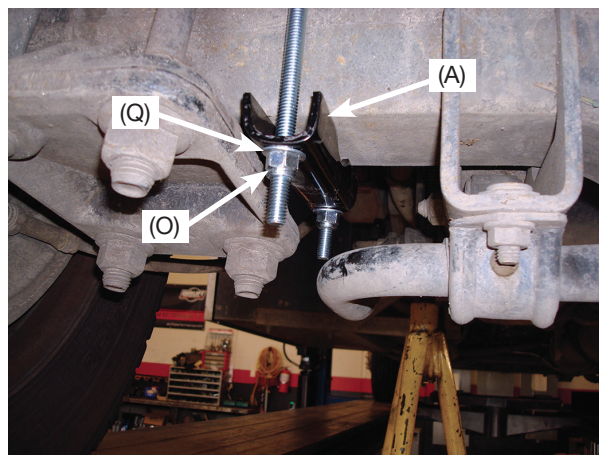

fig. 16
6. Insert the lower clamp bar (A) over the carriage bolts under the axle and cap with flat washers (Q) and nylon lock nuts (O). Repeat for the other side and torque all the lower mounting hardware evenly to 10 lb.-ft. (14Nm) (Fig. 16).